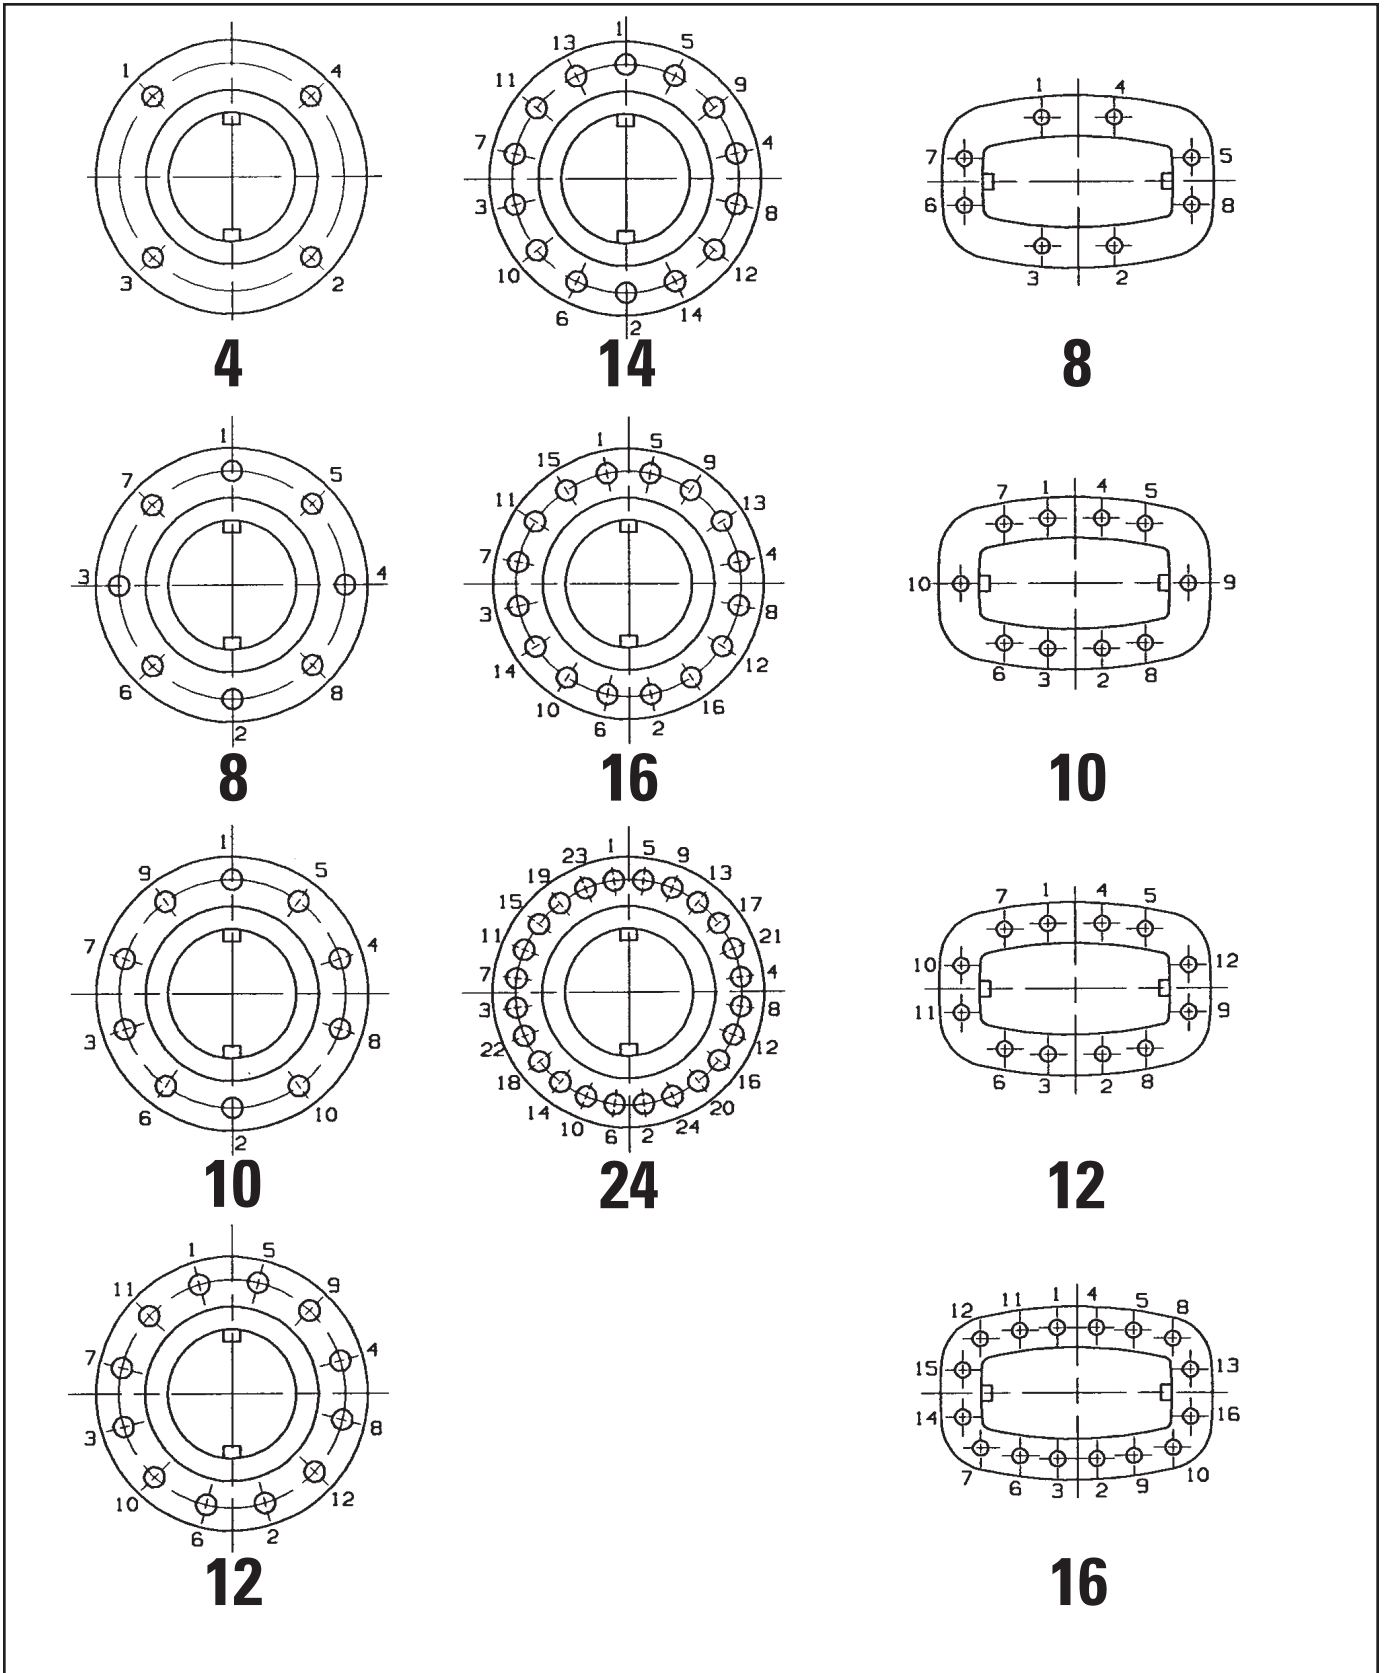

Figure 4.5A Bolt tightening sequence
3. After tightening bolts by hand, follow the bolt tightening sequence shown in *Fig. 4.5A*. This sequence depends on the quantity of bolts used. The drawing illustrates the tightening sequence of different size and class. The bolts should be torqued to the values in accordance with the table material for stud threads (see *Table 4.5A*).